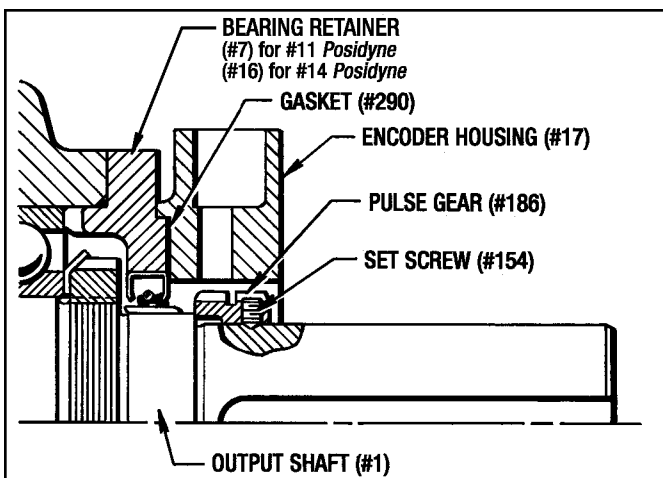

Figure 9.19 - Pulse Gear Alignment (#11 and #14 *Posidyne*)
- Slide the Pulse Gear (#186) onto the output shaft. Align the Set Screw (#154) with the drilled hole in the output shaft. Position the Pulse Gear as shown in *Figure 9.19*. Tighten Set Screw (#154).